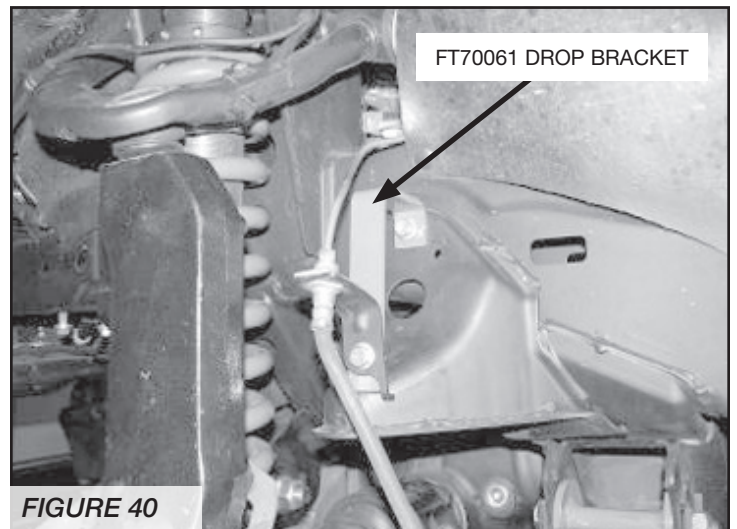

FIGURE 40
30. Locate the factory brake line tab next to upper control arm. Unbolt the bracket from the frame save hardware and bracket. You will need to carefully pull the hard brake line down 4". Locate FT70061 brake line drop bracket and attach the bracket to the frame with the factory hardware in the upside down J formation. Attach factory bracket to the new bracket using the supplied  $\frac{5}{16}$ " x 1" bolt, nut, and washers (BAG 2). **SEE FIGURE 40**